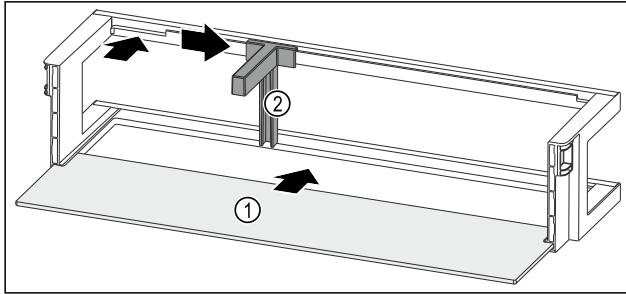

Fig. 126 Door racks with shelf
- Push the shelf Fig. 126 (1) into the side cutouts.
- Insert the bottle holder Fig. 126 (2) into the recess.
- Push the bottle holder Fig. 126 (2) to the side into the desired position.